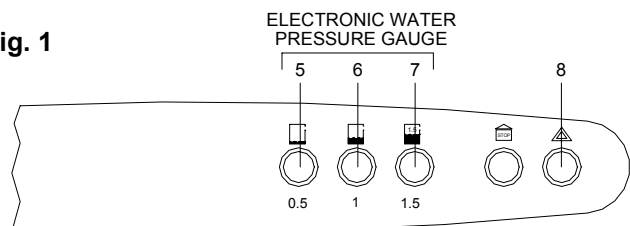

Fig. 2
SELF- DIAGNOSTIC LEGEND (see fig. 2)
- Make sure that 6 and 7 lights are ON (fig.2, page I, pos. 6 and 7); if light no. 5 is ON, it means water deficiency in the system: open the tap on the filling loop and fill the system until a pressure of 1.5 bar has been reached (light no. 7 ON; fig.2) and then **close the tap**.
If boiler locks-out (see fig. 2 page I), indicator no.9 ON) proceed as follows: